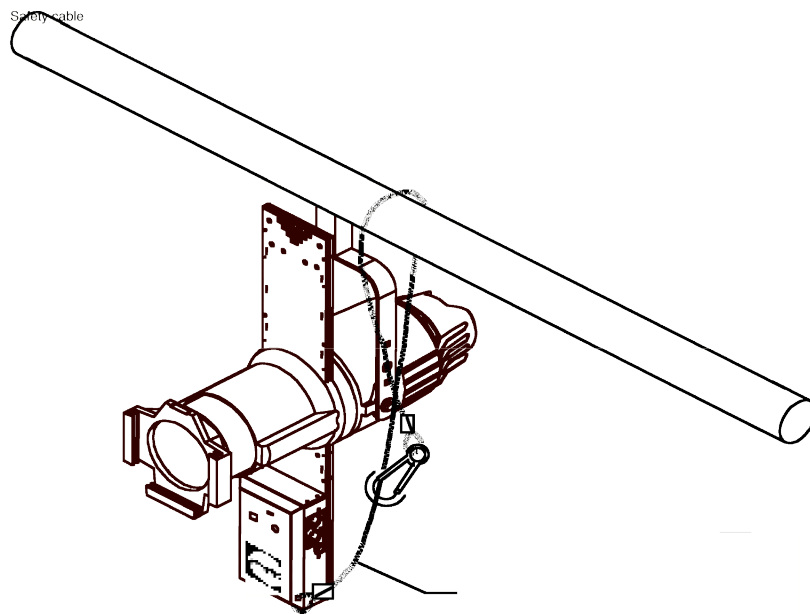

Figure 4
- A. A safety cable is attached to the corner of the Goboram II Gobo Changer. Run this cable around the pipe or truss from which you hang the light fixture and clip it to itself (fig. 4).